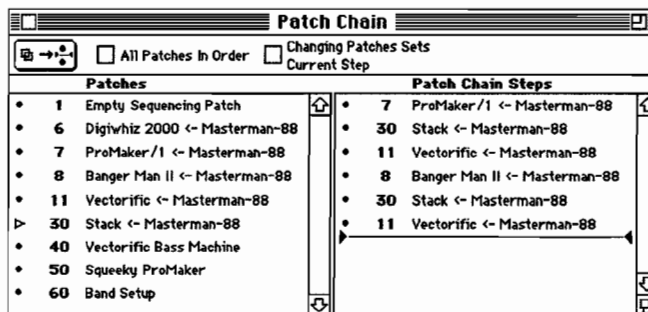

Figure 9-14: Pasting to the End of the Patch Chain List
- Paste the Patch Chain Step without choosing an insertion point. Look at Figure 9-14 to see that the Patch Chain Step was pasted to the end of the Patch Chain List.